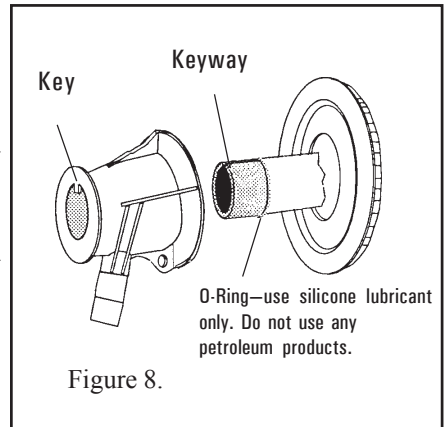

Figure 8.
- Take the bulb assembly and insert it through the flow director. Note the aligning keyway on the bulb assembly as shown in Figure 8. The keyway must point in the same direction as the top key on the fitting body.
7. Take the new replacement bulb assembly with the red cap/plug in place and insert the bulb assembly through the flow director. Note the aligning keyway on the bulb assembly as shown in Figure 8. The keyway must point in the same direction as the top key on the fitting body.